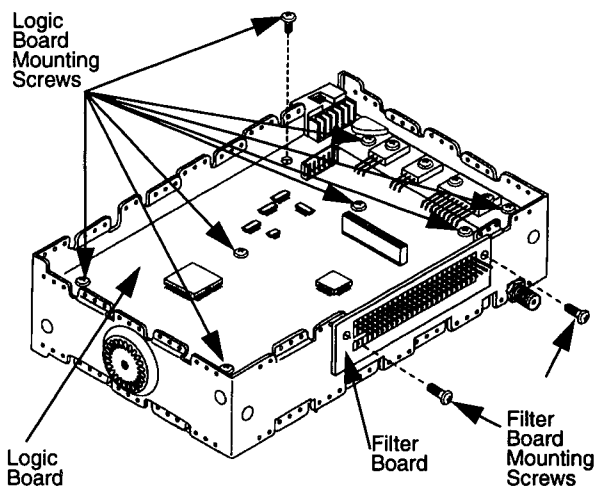

Figure 1-6.
1. Turn the chassis over and remove all eight logic board mounting screws using a T10 Torx driver (Figure 1-6).
2. Remove the two filter board screws from the front of the chassis using a T10 Torx driver (Figure 1-6).